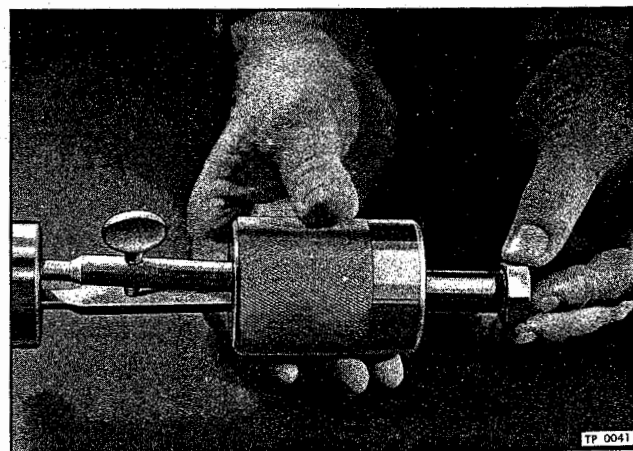

Figure 4—Pilot Bearing and Removal Tool
5. Remove pilot bearing using tool (B-80-0061) (fig. 4). Spread puller prongs in bearing by tightening thumb screw, then slide weight against stop nut to pull bearing.